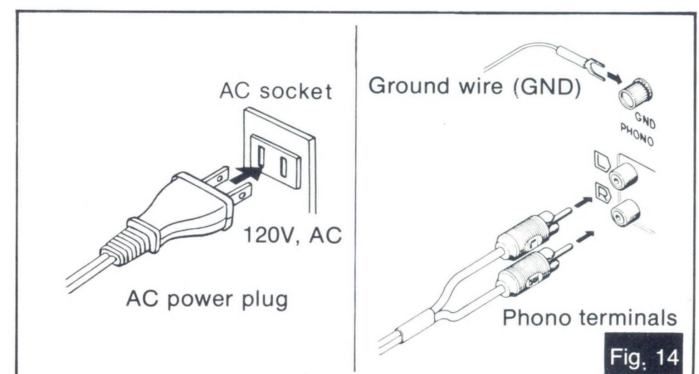

Fig. 14
- **Connect the AC power plug.** (See Fig. 14.)
- **Connect the output terminals.** (See Fig. 14.)